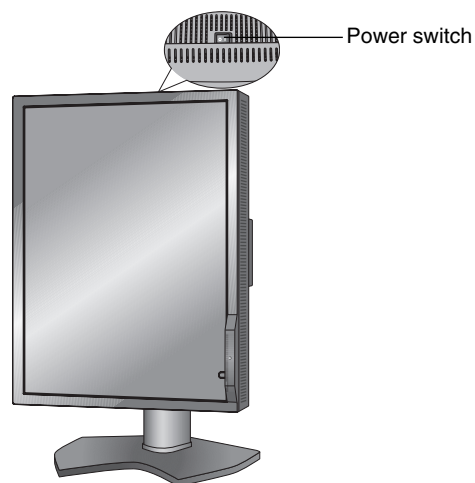

Figure E.1
- Turn on the monitor with power switch on the top (Portrait) or left side (Landscape) of the monitor (**Figure E.1**). Turn on the computer.